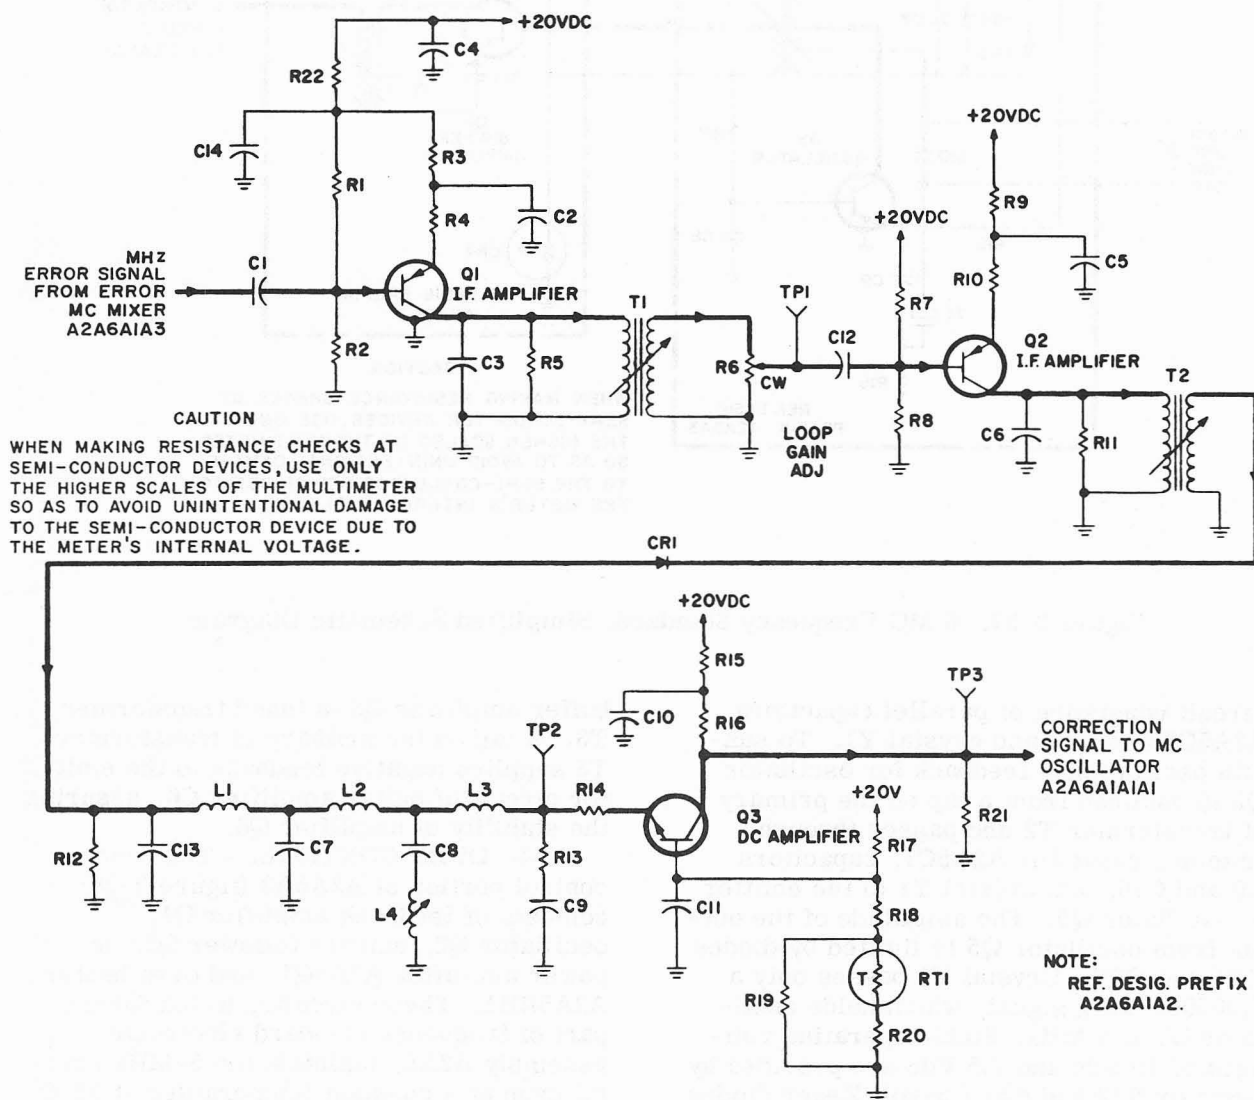

Figure 3-26. Error Detector/Amplifier, Simplified Schematic Diagram
x. ERROR DETECTOR/AMPLIFIER.- Error detector/amplifier A2A6A1A2 (figure 3-26) consists of if. amplifiers Q1 and Q2, and dc amplifier Q3. These circuits, which form a part of mc synthesizer electronic subassembly A2A6A1, amplify and detect the mc error signal, resulting in a correction signal for application to the mc oscillator. The following paragraphs describe the operation of the error detector/amplifier circuit in detail.